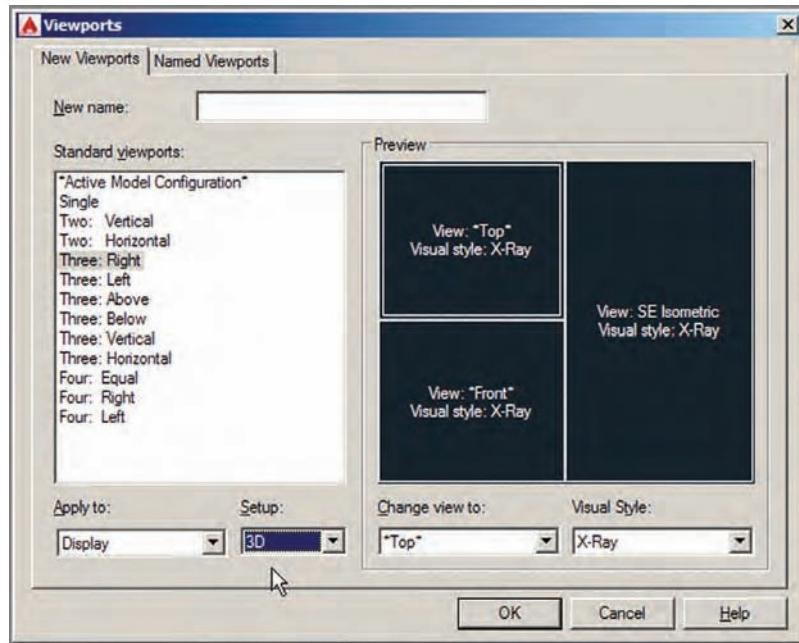

FIGURE 16.8 Configuring viewports
1. Type **VPORTS** and press Enter. In the Viewports dialog box that appears, select Three: Right in the Standard Viewports list. Open the Setup drop-down menu and select 3D (see Figure 16.8). Click OK.